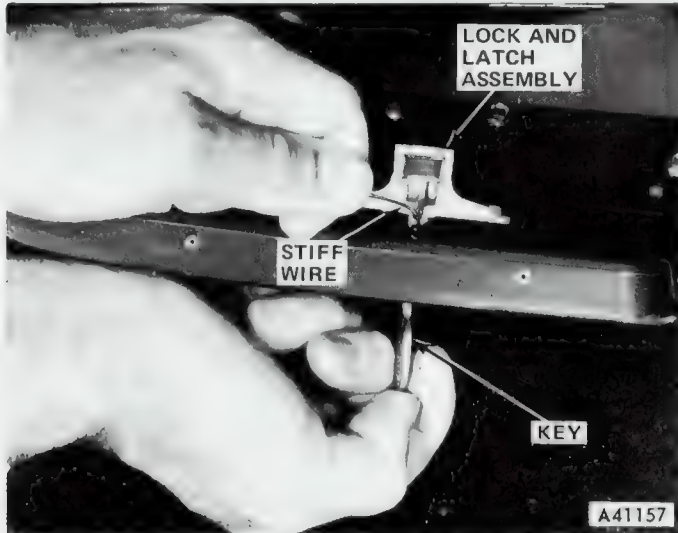

Fig. 3C-11 Lock Cylinder Removal
- (1) Open glove box door, insert key in lock and turn lock counterclockwise to lock position.
- (2) Remove key.
- (3) Apply pressure to retainer tumbler with a stiff wire and insert key (fig. 3C-11).
- (4) Remove lock cylinder and key as a unit.